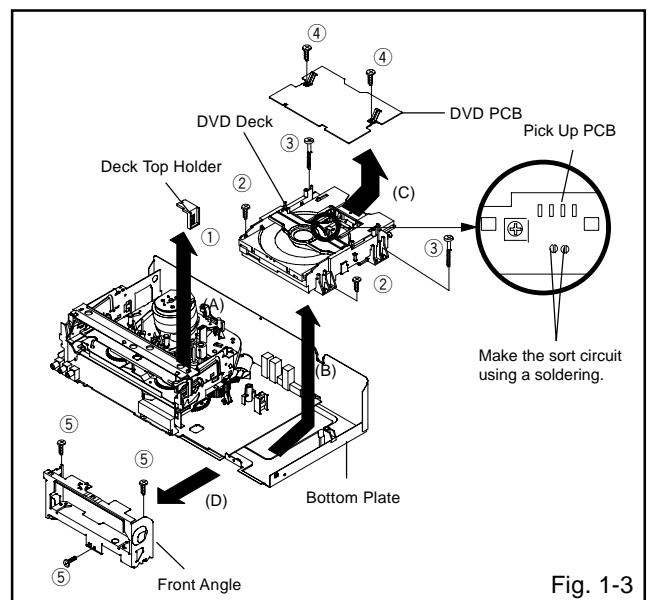

Fig. 1-3
1-3: DVD DECK/DVD PCB (Refer to Fig. 1-3)
1. Make the short circuit on the position as shown **Fig. 1-3** using a soldering. If you remove the DVD Deck with no soldering, the Laser may be damaged.
2. Unlock the support ① and remove the Deck Top Holder in the direction of arrow (A).
3. Remove the 2 screws ②.
4. Remove the 2 screws ③.
6. Remove the DVD Deck in the direction of arrow (B).
8. Remove the 2 screws ④.
9. Remove the DVD PCB in the direction of arrow (C).
10. Remove the 3 screws ⑤.
11. Remove the Front Angle in the direction of arrow (D).